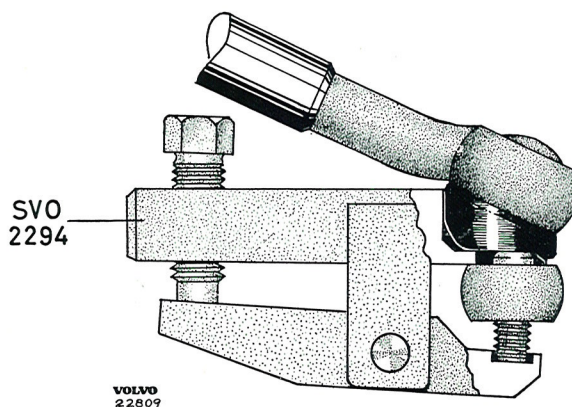

Fig. 2-17. Removing the steering rod
3. Remove the lower nuts for the engine mountings. Remove the steering rods from the pitman arm and relay arm with tool SVO 2294 according to Fig. 2-17.